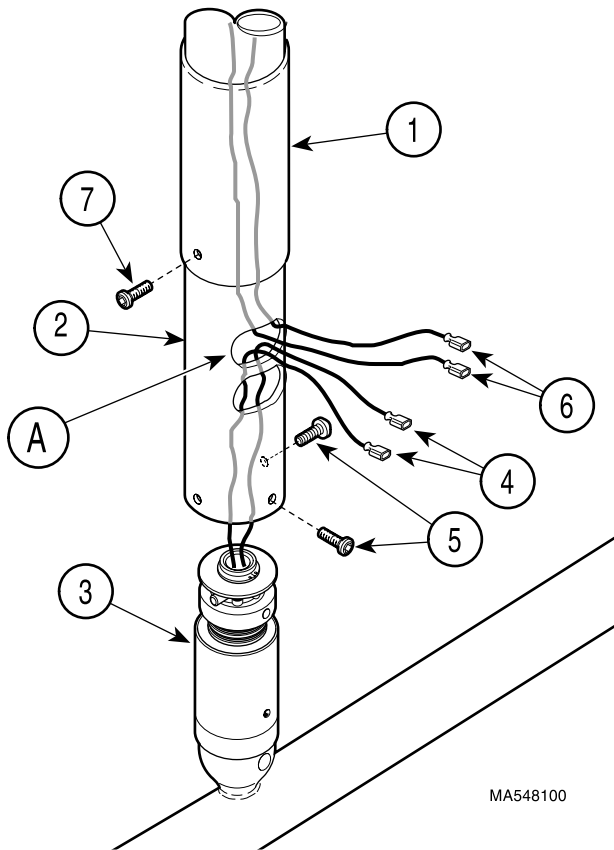

Figure 8. Cross Tube Assembly Installation
1. Slide ball pivot sleeve (1, Figure 8) onto down tube (2), making sure screw hole in sleeve is towards the bottom.
2. With ball pivot sleeve (1) positioned as high as possible on down tube (2), pull blue and brown wires (6) through top window (A) of down tube.